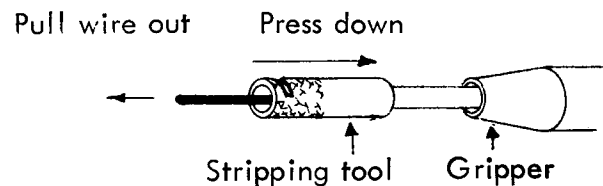

Figure 10
3. Insert tool as shown and, pressing it down into the gripper, pull the wire out (See figure 10).